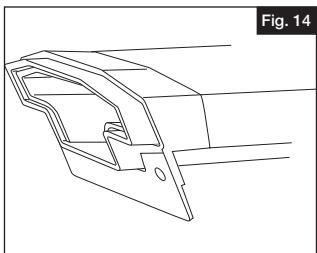

Fig. 14
Slide a top rail mounting bracket in place with flat side facing the mounting post. Top stair mounting bracket (H) should be at top of the stair and bottom stair mounting bracket (G) should be at the bottom (Fig. 14).